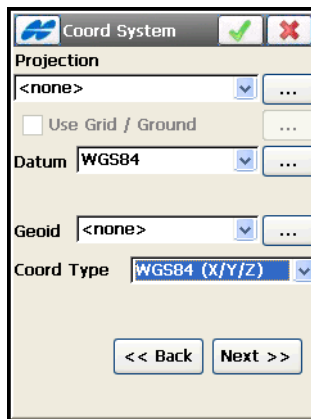

Figure 5-23. Coordinate System
- **Next** – opens the *Coordinate System* screen (see Figure 5-23 on page 5-20).
On the **Coord System** screen (Figure 5-23) select the coordinate type for the data in the file imported. This screen also displays information about the coordinate system in the job.